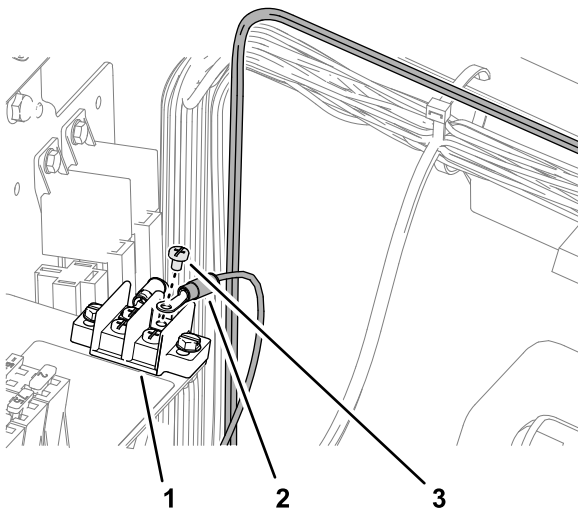

Figure 98
2. Remove a terminal screw from the ground block (Figure 98).
3. Assemble the ring terminal of the kit wire harness labeled GROUND to the ground block with the terminal screw (Figure 98).